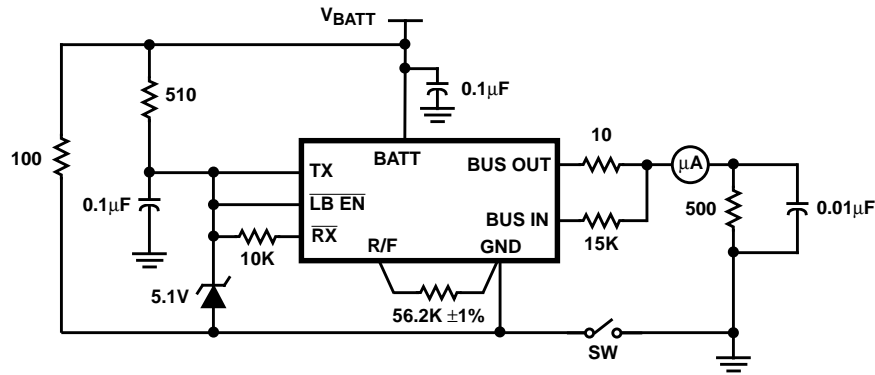

FIGURE 3. LOSS OF GROUND LEAKAGE TEST CIRCUIT
$9.0V \leq V_{BATT} \leq 16V$; $R_S = 56.2k\Omega \pm 1\%$; except as noted, $R_{BS} = 500\Omega$ to 1500 Ω and $\tau = R_{BS}C_{BS} = 5\mu s$. All voltages are measured with respect to ground and the T_A Range of -40 $^{\circ}C$ to 125 $^{\circ}C$ shall not be exceeded during test unless otherwise specified. For test detail, refer to the Block Diagram, Figures 3 and 4 Test Circuits and Figures 5 and 6 Waveforms.
Electrical Specifications $9.0V \leq V_{BATT} \leq 16V$; $R_S = 56.2k\Omega \pm 1\%$; except as noted, $R_{BS} = 500\Omega$ to 1500Ω and $\tau = R_{BS}C_{BS} = 5\mu s$. All voltages are measured with respect to ground and the T_A Range of $-40^\circ C$ to $125^\circ C$ shall not be exceeded during test unless otherwise specified. For test detail, refer to the Block Diagram, Figures 3 and 4 Test Circuits and Figures 5 and 6 Waveforms. **(Continued)**
11. Loss of Ground refers to loss of module (node) Ground which results in a voltage between the Battery and IC Ground of less than 0.8V. For voltage between Battery and Ground above 0.8V, the Transceiver Bus Output may become active. The module circuit in Figure 3 is used to measure the Loss of Ground leakage.